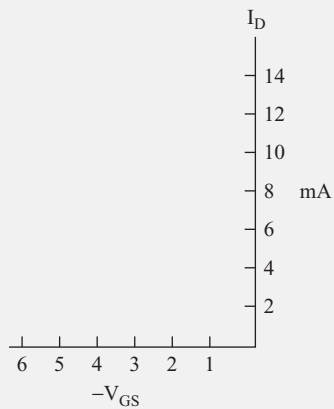

FIGURE 4.24
6. Graph the points recorded in the table, using the blank graph in Figure 4.24. Draw a curve through the points. Your curve should look like the one in Figure 4.22.